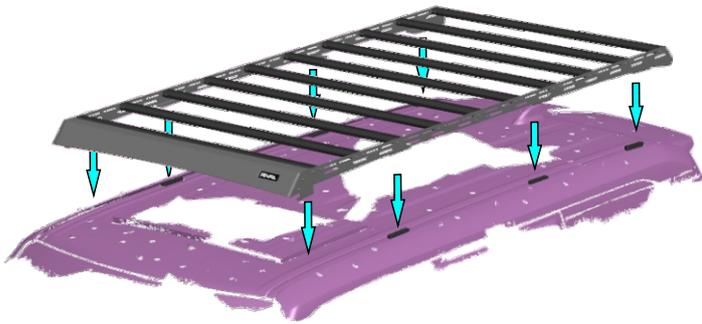
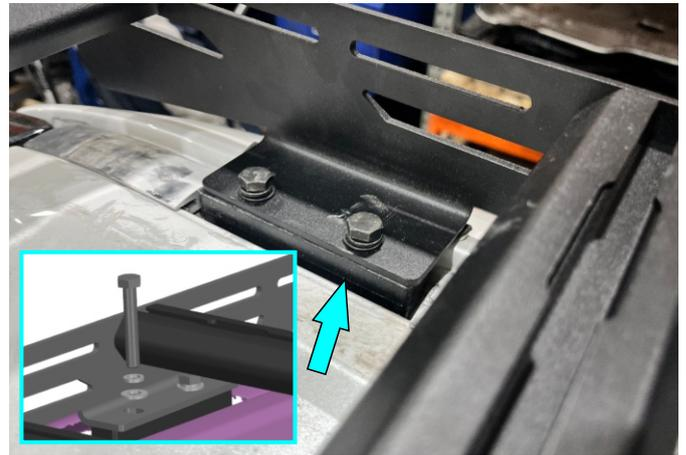

Fig. 20
Fig. 21
16. Slightly secure assembled platform on pre-installed spacers on the roof using bolts M8x50, spring washers M8 and washers M8 (items C, K, J). Slide the front foot in the ditch under the drain seal. as shown in fig. 20. and fig. 21.